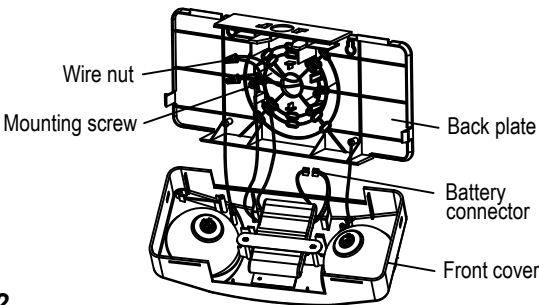

Fig 2
Wall Mount-Back Power Feed (see Fig 2)
7. Plug battery male connector into battery female connector on PCBA.(see Fig 2).